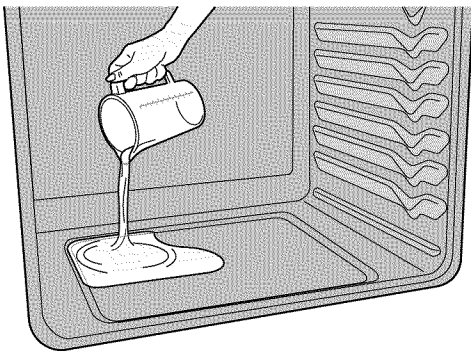

Figure 1: Add 8 ounces of distilled water.
3. Pour 8 oz (235 ml) distilled or filtered water onto the oven bottom (see figure 1). Close the oven door.